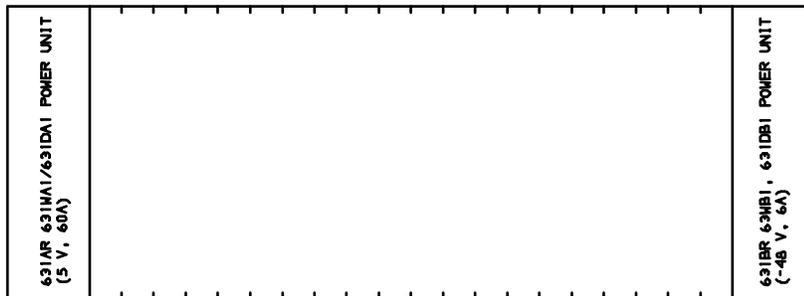

FIGURE 5-8. Power Unit Locations
11. Install the power units (removed from G1) into the “A” carrier. There are four different pairs of power units available. They are the 631AR1 and 631BR1, the 631WA1 and 631WB1, the 631DA1 and 631DB1, and the 644A and 645B. Do not interchange the units. The 631AR1, 631WA1, 631DA1, or 644A are installed in the left side, while the 631BR1, 631WB1, 631DB1, or 645B are installed in the right side (see Figure 5-8).